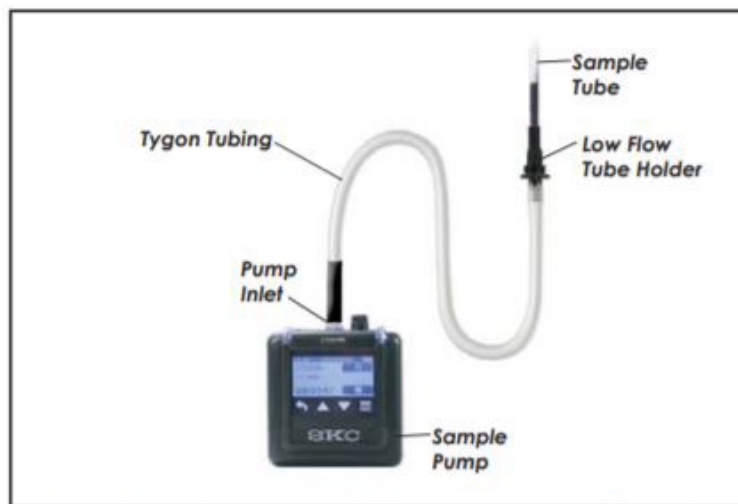

Figure 1. Sampling train with single (non-adjustable) low flow tube holder and Pocket Pump TOUCH
2. Setting up the Sampling and Flow Rate Verification Trains — Figures 1 and 2